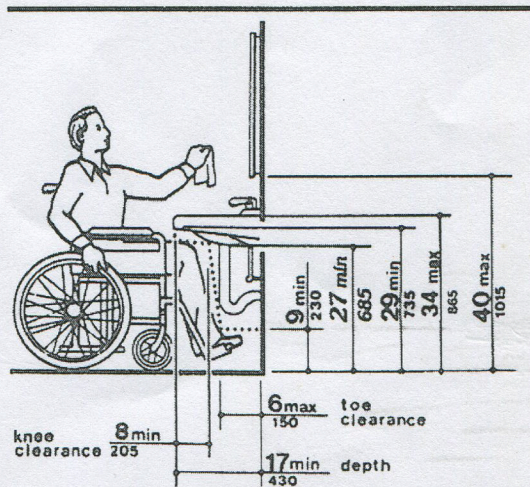

Fig. 31
**4.19.2 Height and Clearances.** Lavatories shall be mounted with *the rim or counter surface no higher than 34 in (865 mm) above the finish floor.* Provide a clearance of at least 29 in (735 mm) above the finish floor to the bottom of the apron. Knee and toe clearance shall comply with Fig. 31.